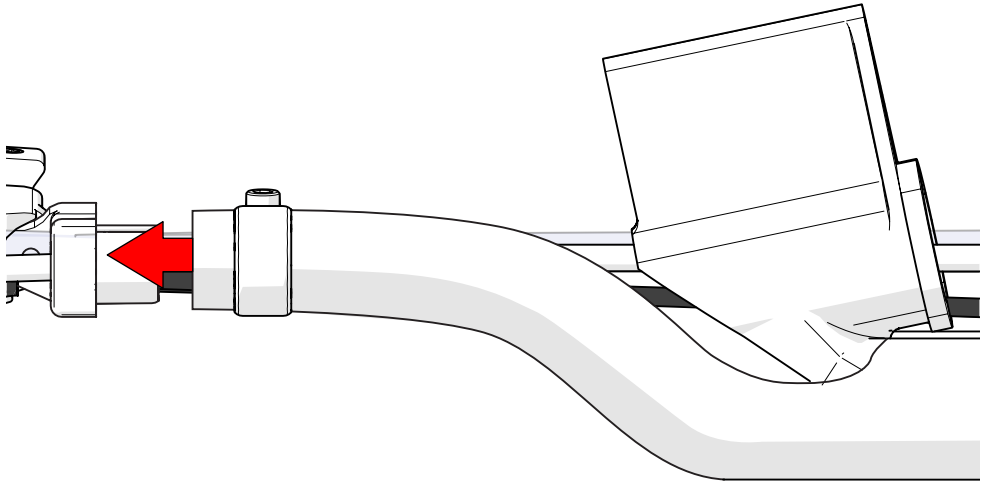

Fig. 64 - Position around sleeve clamp bracket
8. Bring the sleeving around the sleeve clamp bracket (*Fig. 64*).